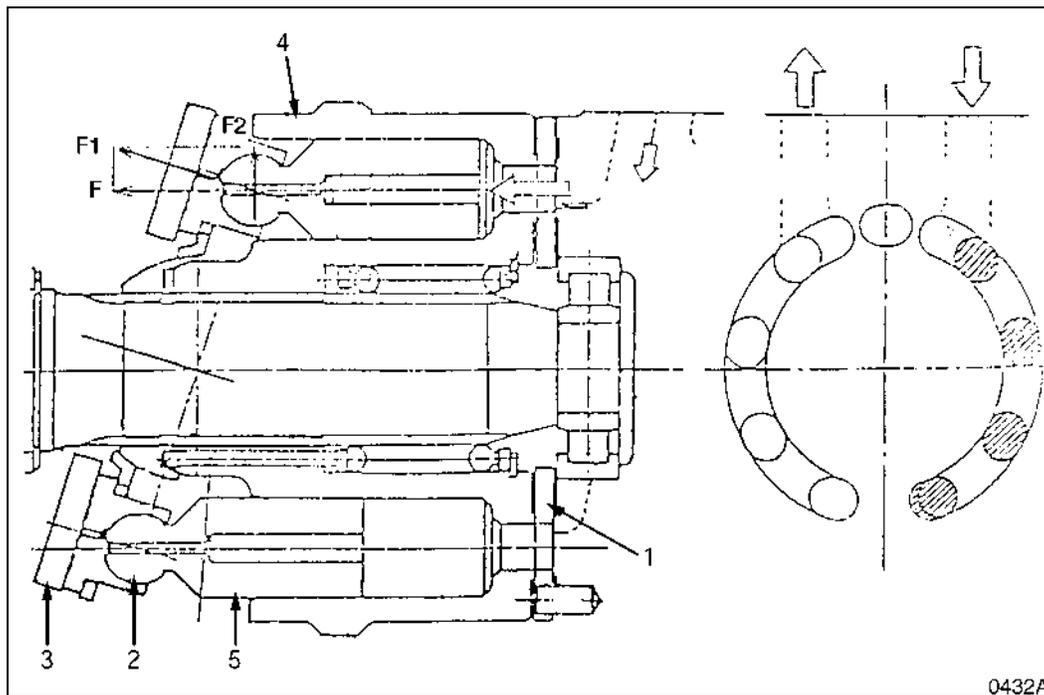

Figure 1
The cross sectional views of the swing motor, show most of the main components of an axial-piston type hydraulic motor. Arrows indicating direction of flow and other graphic symbols provide a general guide for understanding basic operation (Figure 1).
When high-pressure oil enters the cylinder through the inlet port of the valve plate (1, Figure 1), the sliding piston inside the cylinder is driven back, generating force "F" against the shoe behind the piston (2).
Force "F" acts in two different directions, as indicated by the arrows (Figure 1). Force F1 exerts pressure directly on the swash plate (3) to generate oil flow through the motor, while force F2 pushes laterally - at a right angle - against the drive shaft, providing the rotational energy to turn the cylinder block around the drive shaft.